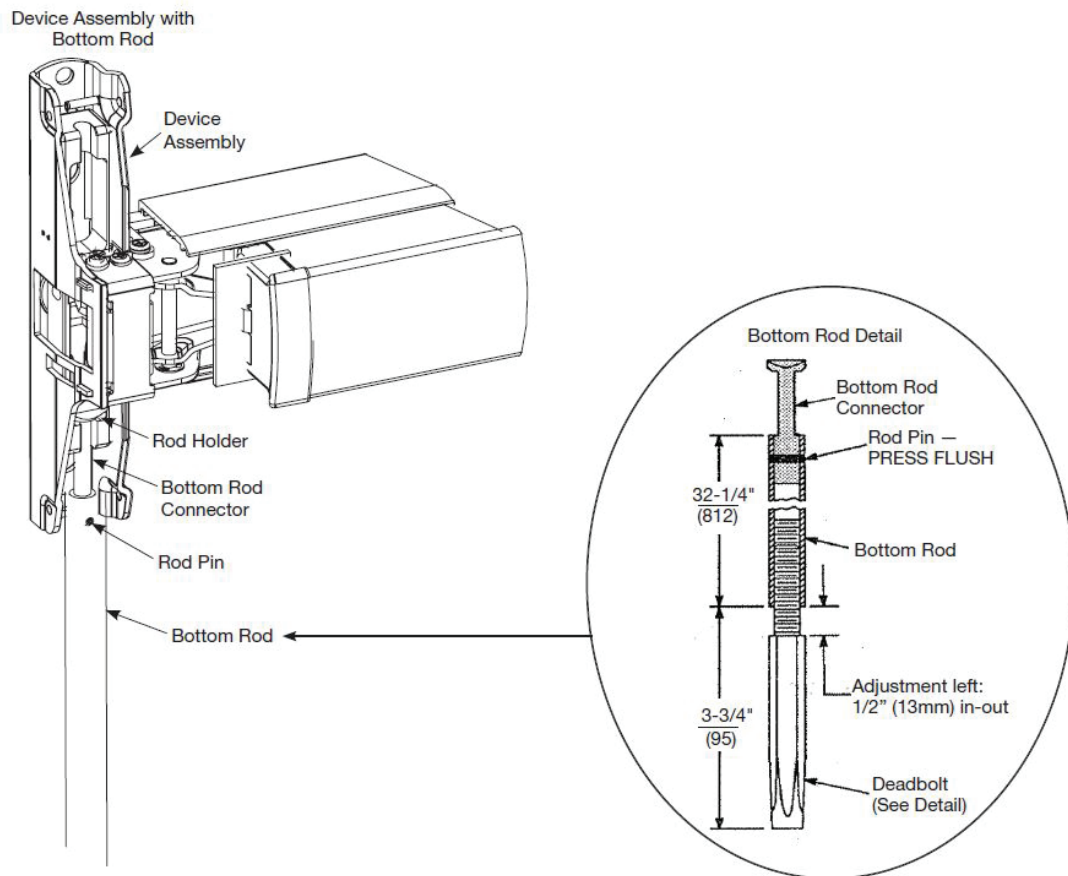

Figure 24
3. Insert bottom rod connector into bottom rod and insert rod pin to secure. Pin should be flush on both sides. Screw on deadbolt. Insert rod into device assembly (see Figure 24).